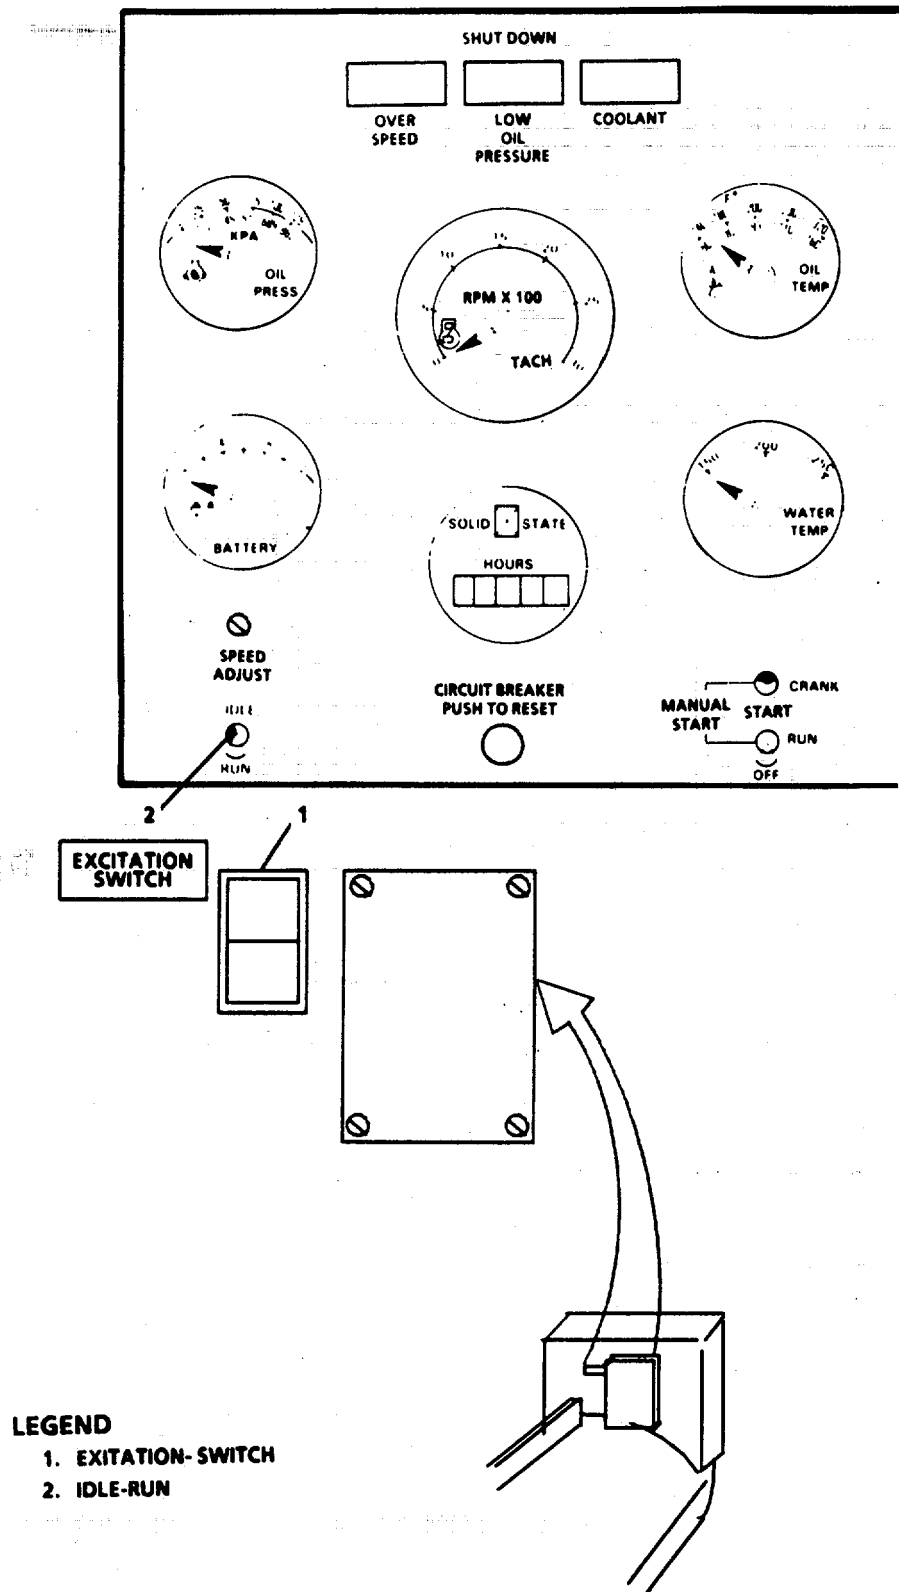

FIGURE 2-235. Ship Service Diesel Generator and Control Panel.
- c. On port and starboard Ship Service Diesel Generator and Control Panel (FIGURE 2-235), set EXCITATION switch (1) to OFF position.
- d. Set IDLE RUN switch (2) to IDLE position.
- e. Allow diesel to run for 3 minutes then set IDLE RUN switch (2) to OFF position.